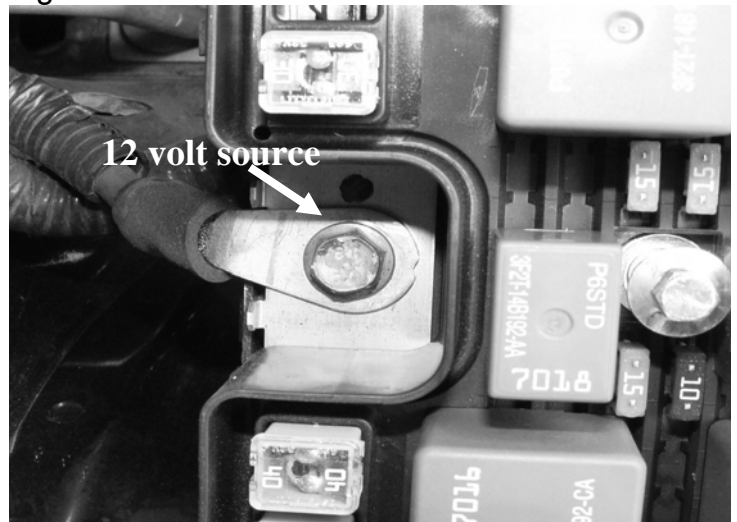

Figure 3
11. Next install the Solenoid to Power Wire, referencing figure 3 to locate the power connection to mount the Yellow ring terminal and wire. Use the Snap Lock Fuse holder and a short piece of wire, connect to the terminal and run the long wire around front of vehicle and connect to the Red (+) wire on solenoid using included connector.